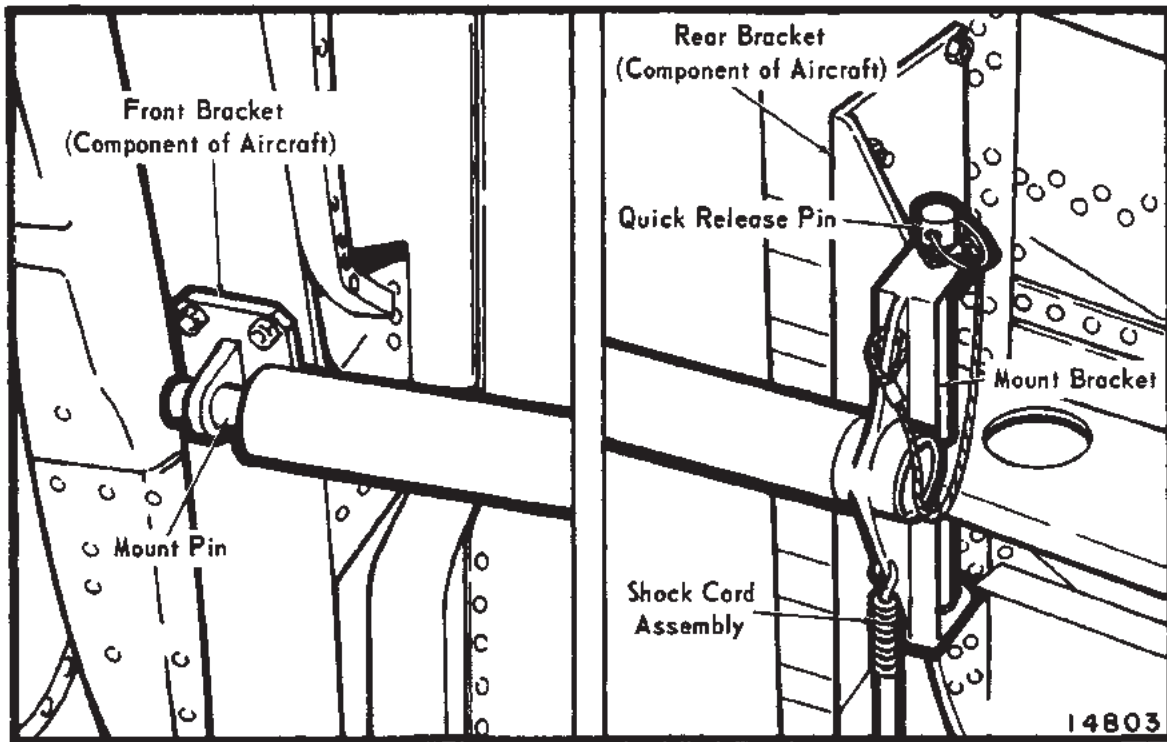

Figure 4-2-5. Right Machine Gun Mount — Installed
The mount assemblies (fig. 4-2-5) are installed on mounting brackets fastened inside the helicopter and secured with mounting pins.
- The quick-release pin (fig. 4-2-5) is attached by cable to the mount bracket of the mount and fastens the mount bracket to the rear bracket at the helicopter opening.